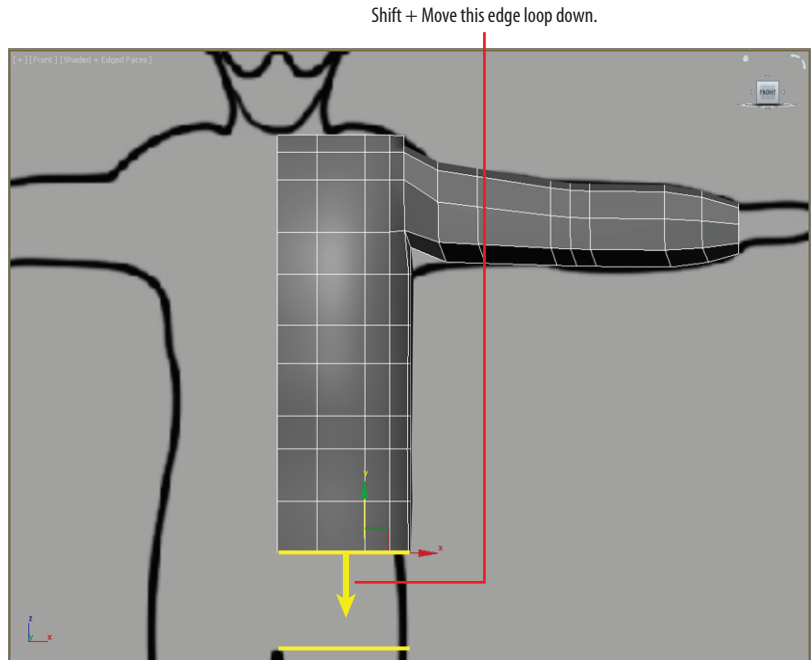

FIGURE 7.24 Select the edge loop at the bottom of the model and Shift+Move it down.
2. Now Shift+Move the loop down on the Y-axis to create a new extrusion all the way down to the groin in the reference illustration, as shown in Figure 7.24.